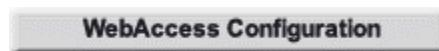

Figure 3-3 - WebAccess bwRoot page (Root page)
1. Select **WebAccess Configuration** button on the HOME Page (bwroot.asp), Figure 3-3.